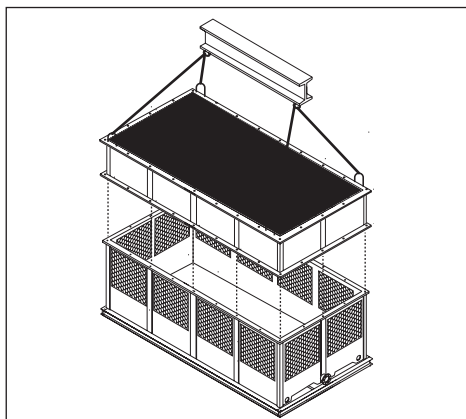

Figure A-18: Lower body installation for a Double Fan Tower (RT-D)
- H. Only if your Tower is a RT-D model:** It includes additional part of body section (Lower Body section). Place Lower Body section on top of basin section, then bolt down and secure the horizontal flanges with the stainless steel nut and bolt sets supplied by REYMSA (see figure A-18).